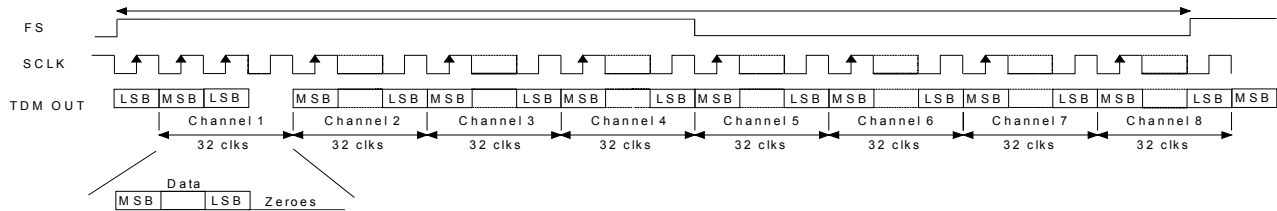

Figure 12. TDM Format
In TDM Mode, all eight channels of audio data are serially clocked out during a single Frame Sync (FS) cycle, as shown in Figure 12. The rising edge of FS signifies the start of a new TDM frame cycle. Each channel slot occupies 32 SCLK cycles, with the data left justified and with MSB first. TDM output data should be latched on the rising edge of SCLK within time specified under “Serial Audio Interface - TDM Timing” section on page 16. The TDM data output port resides on the SDOOUT1 pin. The TDM output pin is complimentary TDM data. All SDOOUT pins will remain active during TDM Mode. Refer to Section 4.11 “Optimizing Performance in TDM Mode” on page 29 for critical system design information.